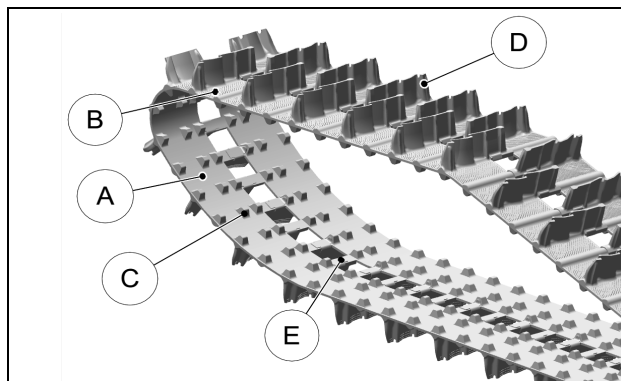

Figure 30
Verify wear on Track by inspecting the internal (A) and external (B) condition of the Track's carcass rolling path, driving lugs (C), the profile (D). Make sure that the Track's internal structure is not visible at cuts or in worn areas. Make sure the steel clips (E) are not abnormally worn. See Figure 30.